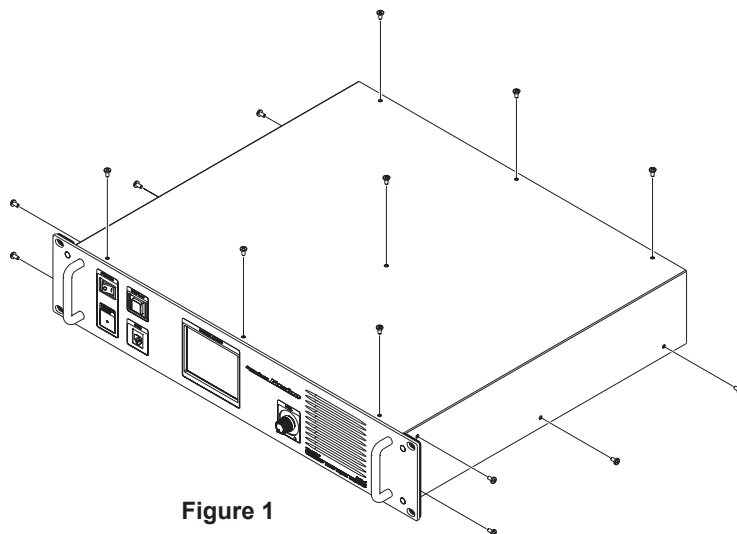

Figure 1
- 3 Referring to Figure 1, remove the 4 screws from each side and 7 screws from the top cover of the DR-1X/DR-1XE, then remove the top cover.